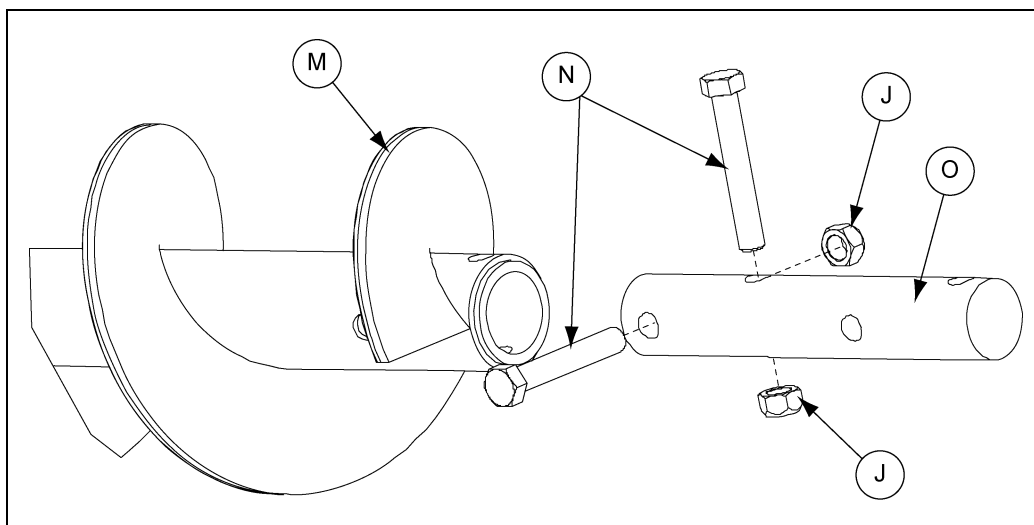

Figure 4AI
4. Next, bolt the 2" O.D. x 11-1/2" connecting shaft (O) to the sweep flight (M) with two (2) 5/8" x 4" grade 8 bolts (N) and stover nuts (J). (See Figure 4AI.)